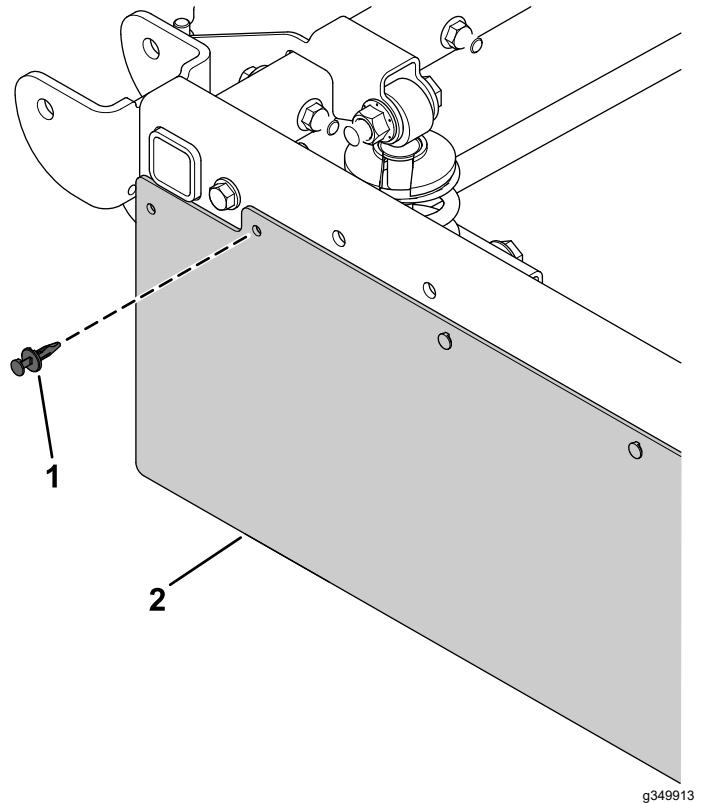

Figure 6
2. Remove 1 plastic push rivet from the side panel (Figure 6).
3. Pull down the corner of the side panel (Figure 6).
6. Install the previously removed plastic push rivet (Figure 6).